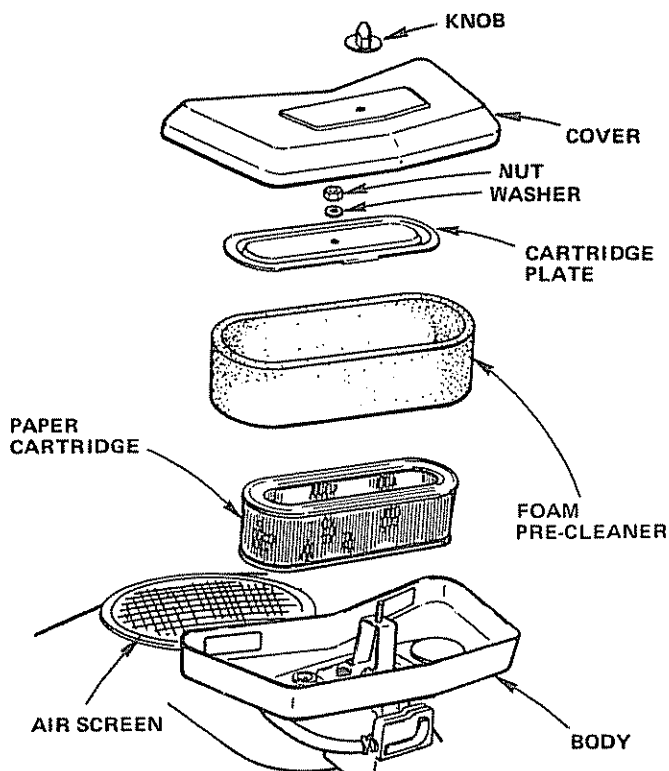

FIGURE 36
1. **CLEAN AIR CLEANER FOAM PRE-CLEANER (FIG. 36).**
Air Screen (Fig. 36) must allow free-flow of air to prevent Engine damage from overheating. Clean with a wire brush, compressed air or water pressure to remove dirt, chaff, stubborn dried gum and fibers.